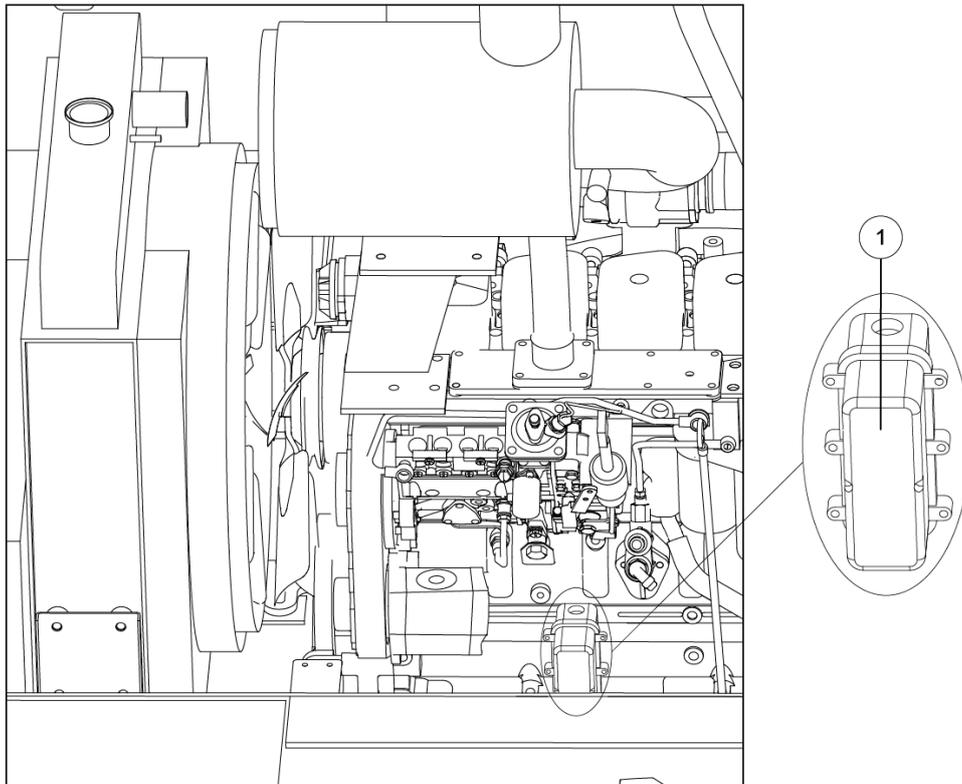

Figure 5-27 Preheater
Step 1: Connect the power of the preheater (1) to preheat the engine for 15 minutes, as shown in Figure 5-27;